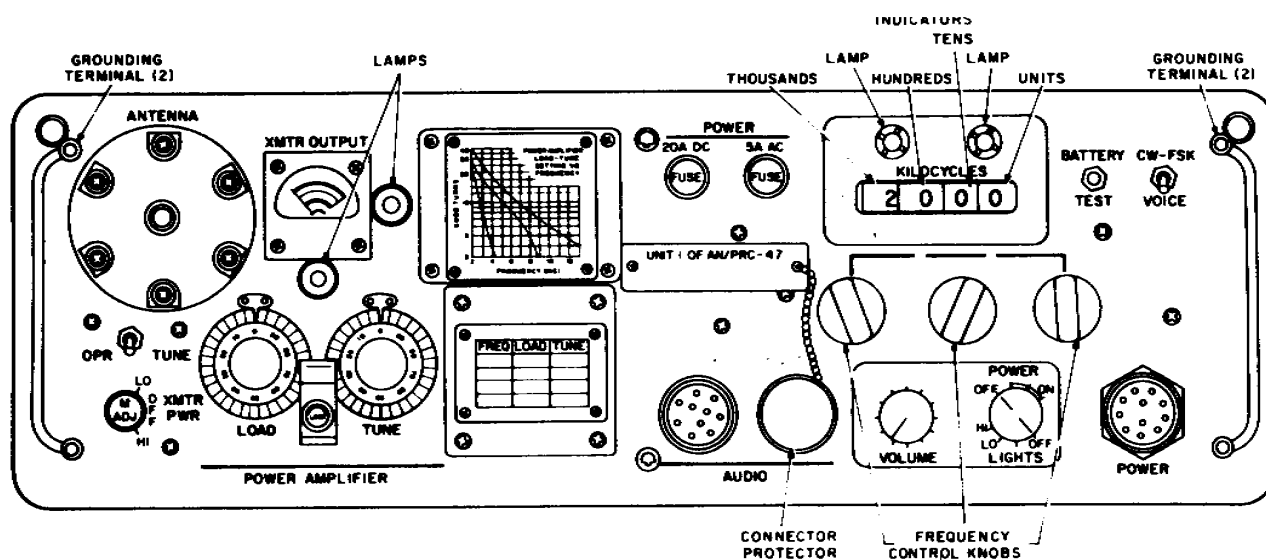

Figure 3-1. Receiver-Transmitter, Radio RT-671/PRC-47, front panel controls, indicators, and receptacles.
(2) Be sure the POWER/LIGHTS switch (fig 3-1) on the Receiver-transmitter control panel is at OFF/OFF.
(3) For the portable configuration, perform the following:
(b) Unwind the eight radials (two per leg) from the spools that form an integral part of each leg (fig. 1-6) and connect the short (terminated) end of each radial to the ground terminals (fig. 3-1) at each end of the receiver-transmitter front panel.
(c) Attach the threaded stud section to the ANTENNA connection on the front of the receiver-transmitter (fig. 3-1).
(1) *Portable.* During portable operation, the primary power source is the battery. For this configuration, install Adapter, Battery Terminal MX-4430/PRC-47 on top of the battery. Note that the adapter is keyed for one-way installation only. Place the connector portion of the adapter on the same side as the + and - stampings on the battery. Attach Cable Assembly, Power Electrical CX-8395/PRC-47 to the connector on top of the adapter before connecting the opposite end to the POWER connector on the RT-671/PRC47 front panel (fig. 3-1). Proceed to paragraph 2-9a.
(2) *Vehicle.* When the primary power source is a dc generator, be sure that the instructions in paragraph 2-8 have been implemented. Connect Cable Assembly, Power Electrical CX-8394/ PRC-47 to the source and then to the POWER connector on the RT-671/PRC-47 front panel (fig. 3-1). Proceed to paragraph 2-9c.
(1) On receiver-transmitter, set POWER/LIGHTS switch (fig. 3-1) to ON/LO.
(2) Press BATTERY TEST pushbutton and check that XMTR OUTPUT meter indicates in white area. If meter indicator does not deflect, check that 20A DC POWER fuse is not defective. If the fuse is defective, replace it.
(3) If fuse is not defective, check cable CX-8395/PRC-47. If cable is defective, replace it.
(4) If meter indicator deflects, but not in white area, check the battery (open-circuited) with the multimeter. The multimeter should indicate at least + 29.2 volts dc. If not, substitute another battery and repeat these procedures. For the defective battery, refer to TM 11-6140-208-15.
(5) Set POWER/LIGHTS switch to OFF/ OFF.
(1) Be sure the POWER/LIGHTS switch (fig. 3-1) is at OFF/OFF.
All controls, indicators, and receptacles used by the operator are located on the front panel of Receiver-Transmitter, Radio RT-671 /PRC-47. The front panel controls and indicators are illustrated in figure 3-1 and described in detail in paragraph 3-2.
Each panel-mounted control or indicator (fig. 3-1) is listed in the following chart and a functional description is provided to assist the operator in the proper performance of his duties.
- Set POWER/LIGHTS switch (fig. 3-1) to OFF /OFF.
- Set POWER/LIGHTS switch (fig. 3-1) to ON/LO and allow a minimum of 5 minutes for stabilization.
- Set POWER/LIGHTS switch (fig. 3-1) to ON /LO and allow a minimum of 5 minutes of stabilization.
- a. Verify that CW-FSK/VOICE switch (fig. 3-1) is at VOICE.
- a. Set the CW-FSK/VOICE switch (fig. 3-1) to CW-FSK for both reception and transmission; set the switch to VOICE for reception only.
- a. Mount Adapter, Cable to Connector U-239/PRC-47 (fig. 1-8) to either AUDIO connector on the receiver-transmitter front panel (fig. 3-1).
- c. Set the CW-FSK/VOICE switch (fig. 3-1) to CW-FSK for both reception and transmission; set the switch to VOICE for reception only.